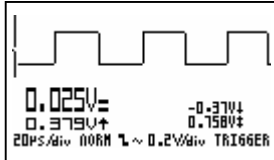

Fig 58
- **'norm'** = normal triggering (fig. 58)
• **'norm'** = normale triggering (fig. 58)
• **'norm'** = synchronisation normale (fig 58)
• **'norm'** = normale Auslösung (fig 58)